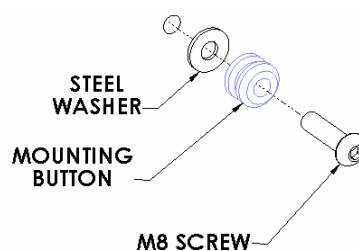
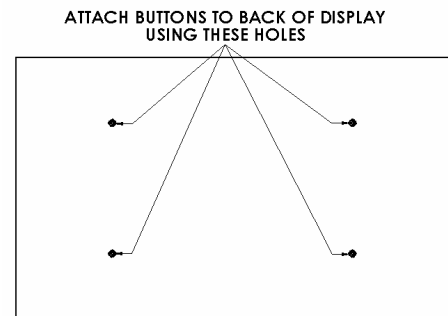

Figure 3
Figure 4
2. Attach mounting buttons to display using M8 screws and steel washers provided (see Figure 3 & Figure 4).